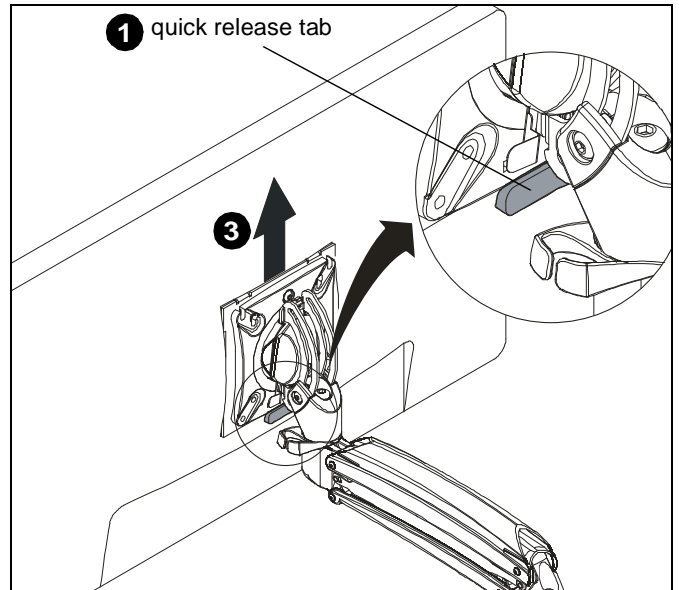
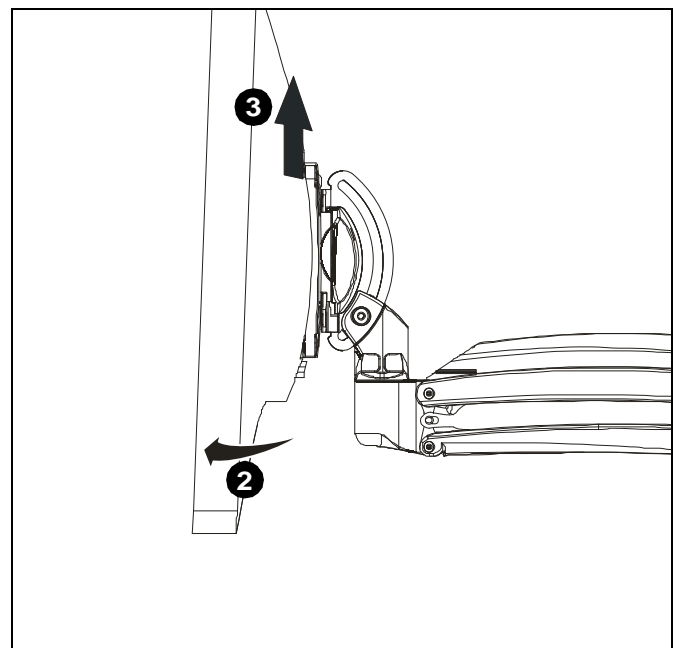

Figure 5
Figure 6
**WARNING:** Only remove display from mount when the display can be lifted up from the mount! DO NOT remove display unless the display is in the upright position! (See Figure 5)
1. Press quick release tab on back of display to release display from faceplate. (See Figure 5)
2. Pull bottom of display away from faceplate. (See Figure 6)
3. Lift display up from faceplate. (See Figure 5) and (See Figure 6)